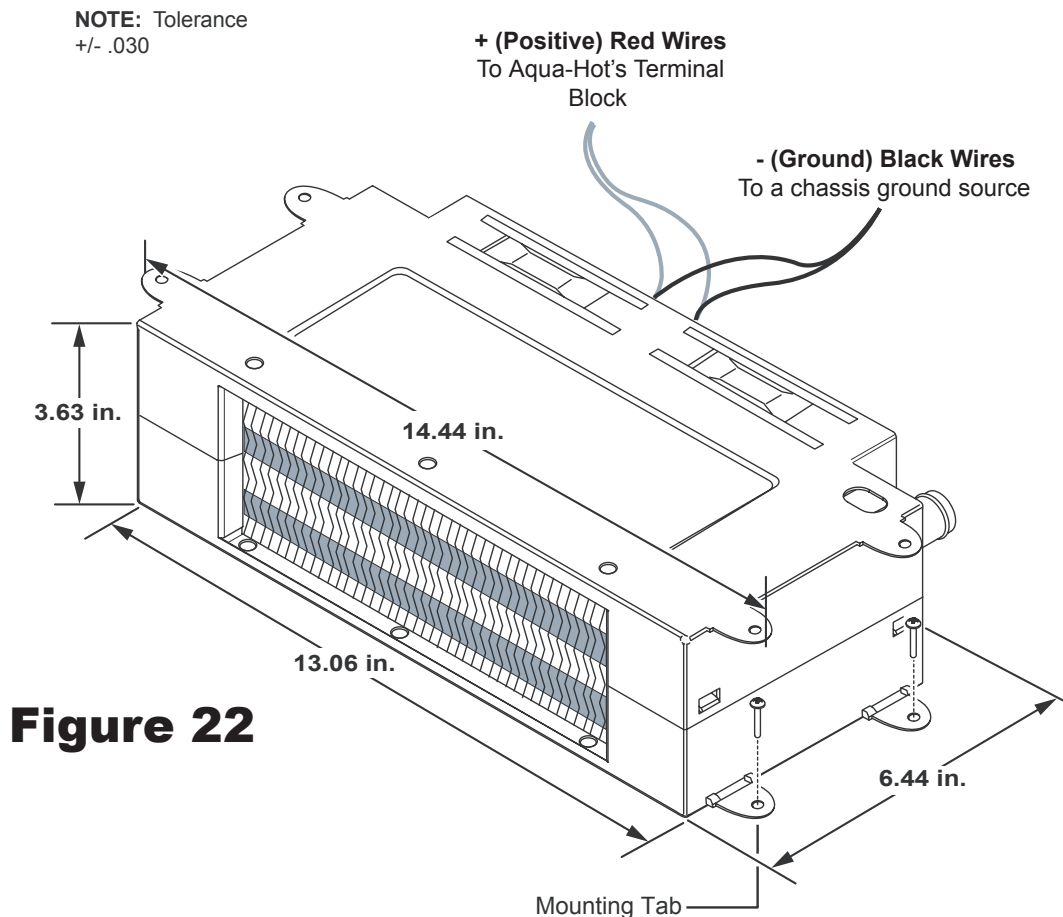

Figure 22
1. Run two 18-gauge wires, red for (+) and black for (-), from each particular heating zone's heat exchanger to the electronic controller. Reference Figure 22.
5. Connect all electronic controller wires to the positive and negative leads of the heat exchanger. Reference Figure 22.